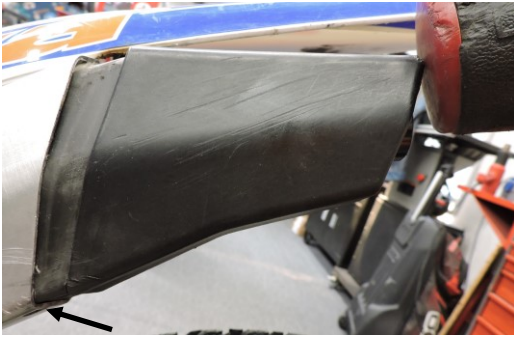

Figure 5-Re-installation of end cap beginning with lower edge identified by black arrow.
- 6) Apply silicone sealant to the surface of the end cap that will interface with the silencer body, this will act as an assembly lubricant & help seal the gap between the two parts. As shown in Figure 5: slide end cap over the adapter & begin assembly by introducing the lower edge of the end cap (see black arrow) into the silencer body. Tap lightly with a rubber mallet at the top end of the end cap to persuade the top edge of the end cap into the silencer body. If the bike is new and the end cap has not been exposed to many exhaust heat cycles; using a heat gun to warm up the inside of the end cap where it meets the adapter will aid in assembly.